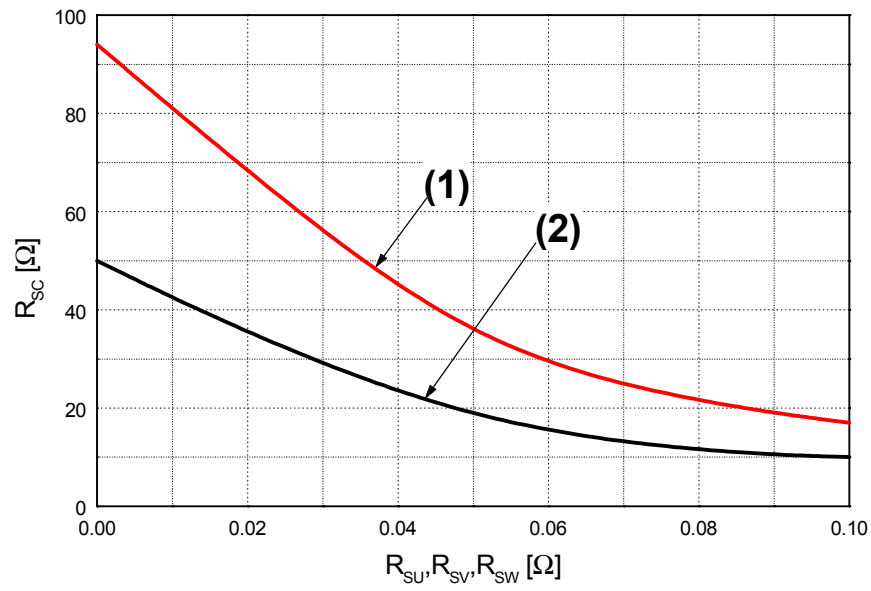

Fig. 6. R_{SC} Variation by change of Shunt Resistors (R_{SU} , R_{SV} , R_{SW}) for Short-Circuit Protection
5. Short-circuit current protection is functioning only at the low-sides. It would be recommended that the value of the external sensing resistor (R_{SC}) should be selected around 50 Ω in order to make the SC trip-level of about 22.5A at the shunt resistors (R_{SU}, R_{SV}, R_{SW}) of 0Ω. For the detailed information about the relationship between the external sensing resistor (R_{SC}) and the shunt resistors (R_{SU}, R_{SV}, R_{SW}), please see Fig. 6.